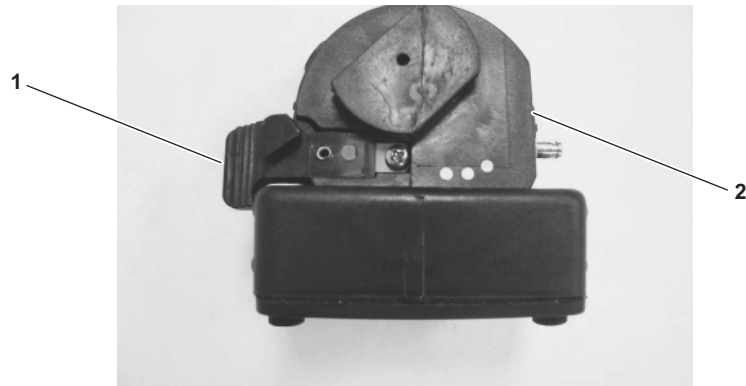
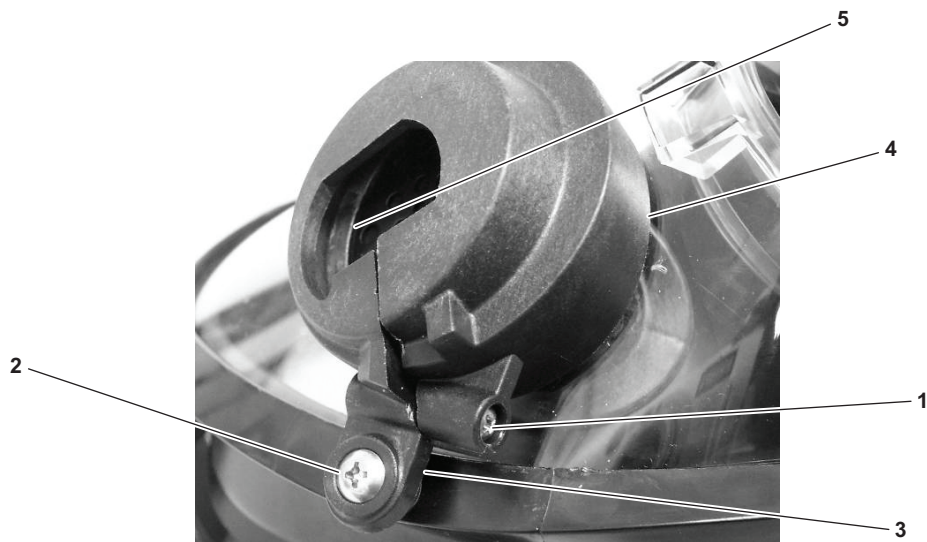

Figure 6-4. Voice Amplifier Removal
Figure 6-5. AV-3000® Mounting Bracket
- (1) Depress the locking lever (figure 6-4, item 1) and rotate the voice amplifier (figure 6-4, item 2) clockwise to remove.
- (2) Using a No. 1 Phillips screwdriver, remove the long screw (figure 6-5, item 1). Set aside for installation.
- (3) Using a No. 1 Phillips screwdriver, remove the short screw (figure 6-5, item 2) from the screw tab (figure 6-5, item 3). Set the screw aside for installation.
- (4) Separate the mounting bracket (figure 6-5, item 4) and remove it from the exterior flap (figure 6-5, item 5).
- (1) Visually inspect the mounting bracket (figure 6-5, item 4) and the voice amplifier (figure 6-4, item 2) for heat damage, cracks, discoloration, cuts, or abrasions. If damage is noted, replace as required.
- (2) Inspect the mounting bracket (figure 6-5, item 4) and the voice amplifier (figure 6-4, item 2) for cleanliness. If dirt or other foreign matter is found, clean IAW PMCS (Chapter 4).
- (3) Spread apart the mounting bracket (figure 6-5, item 4) and place over the right side (as worn) exterior flap (figure 6-5, item 5). Ensure that the hole in the screw tab (figure 6-5, item 3) is positioned over the threaded insert in the lower bezel.
- (4) Ensure that the mounting bracket (figure 6-5, item 4) is completely seated over the exterior flap (figure 6-5, item 5).
- (5) Thread the short screw (figure 6-5, item 2) through the hole in the screw tab (figure 6-5, item 3) and into the threaded insert in the lower bezel.
- (6) Tighten the short screw (figure 6-5, item 2) using a No. 1 Phillips screwdriver. Do not over tighten.
- (7) Using a No. 1 Phillips screwdriver, install the long screw (figure 6-5, item 1) into the mounting bracket (figure 6-5, item 4). Do not over tighten.
- (8) Align the voice amplifier (figure 6-4, item 2) with the mounting bracket (figure 6-5, item 4) and turn clockwise until the locking lever (figure 6-4, item 1) engages.
- (9) Perform a negative pressure check IAW paragraph 6.5.3.